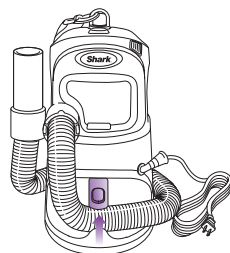

Fig. 15
- 2 Wrap the flexible hose around the base of the vacuum and hook the end of the flexible hose into the hose dock. (fig. 15) To release the hose, press the Hose Storage button.